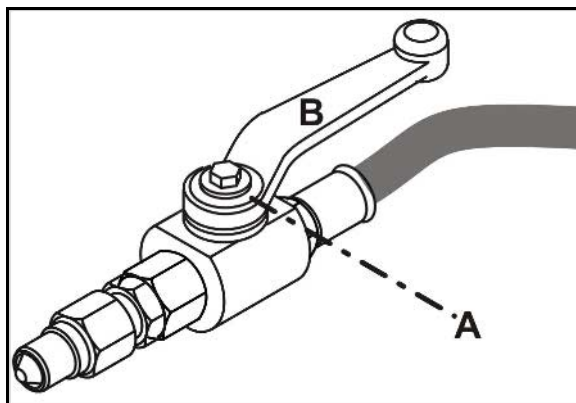

Fig. 52
Stop tap on the hydraulic hose (Fig. 52):
2. Secure the ground wheel by using the chain (Fig. 52/2) and clip pin (Fig. 52/3).